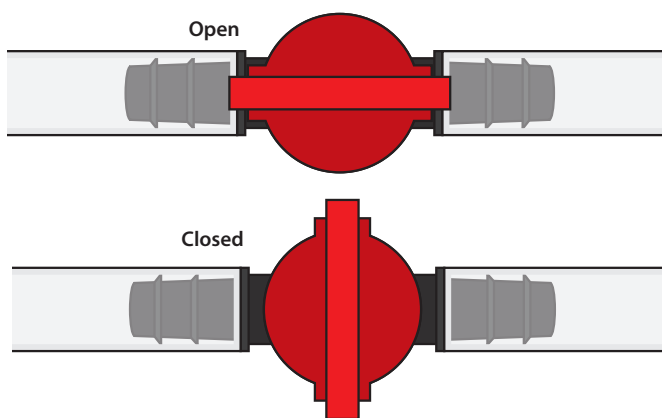

FIG. 20b
*Note: If you are not using the automatic bag holding feature of the system, the Valve of the Tube Assembly MUST be in the closed position [FIG. 20b].*